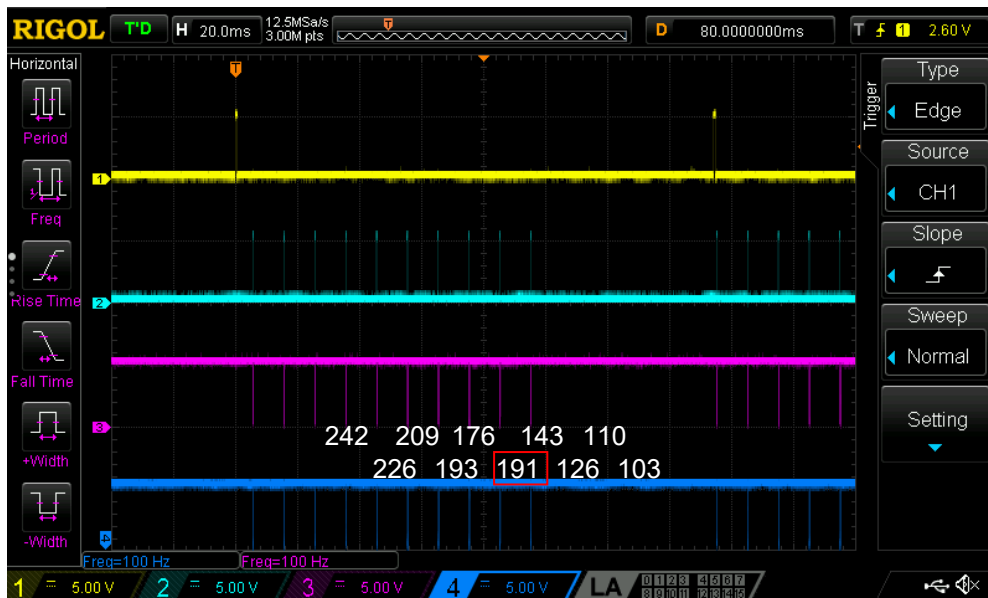

Figure 9
The example data capture in Figure 9 shows ten periodic I²C reads of CNT2/DLY2 configured to count down at about 16 clocks per read. The sixth read sample erroneously shows a value greater than that of the fifth. The seventh sample reads as if the previous I²C error never occurred - the difference from the fifth sample (176) to the seventh (143) is 33 clocks or 16 clocks + 17 clocks as expected.